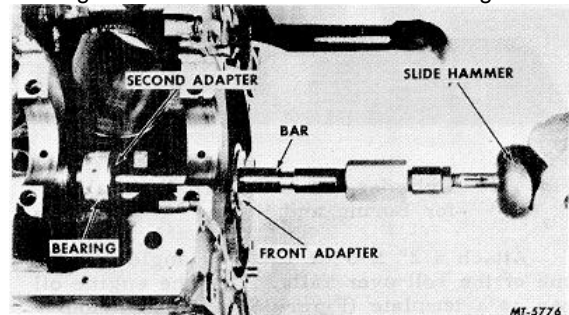

Fig. 97 Removing Second Camshaft Bearing
1. Position front adapter, SE-1897-3 in front bearing (Figure 97).
2. Position second adapter, SE-1897-4 in second bearing (Figure 97).
4. Using front adapter as a pilot, pull second bearing with slide hammer (Figure 97).